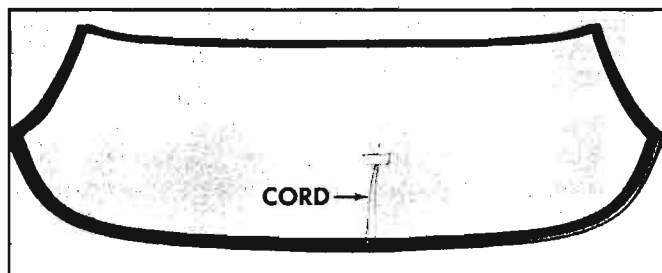

Fig. 10-35—Cord Installed to Windshield Rubber Channel
3. Insert a strong cord in pinchweld cavity of rubber channel completely around windshield. Tie ends of cord and tape to inside surface of glass at bottom center of glass as shown in Figure 10-35.